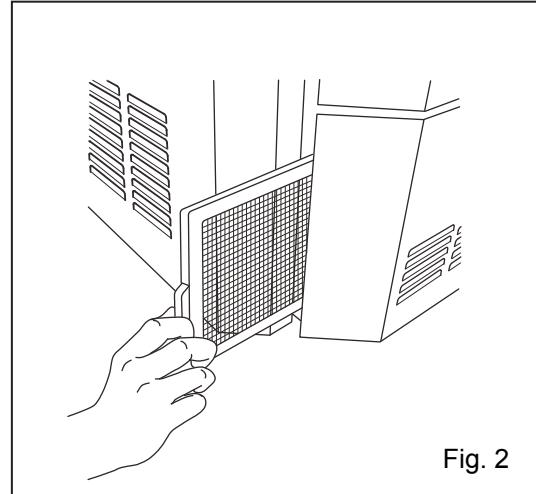

Fig. 2
2. Takeout the filter. (Fig. 2)